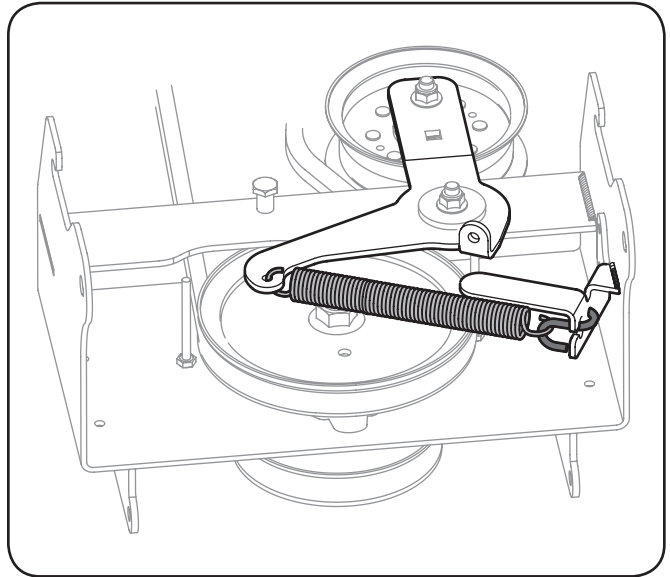

Figure 3-6
- If your tractor is equipped with a **Electric PTO**, attach the 5½-inch extension spring to the wireform S-hook and then to the carriage idler bracket as show in Figure 3-6.